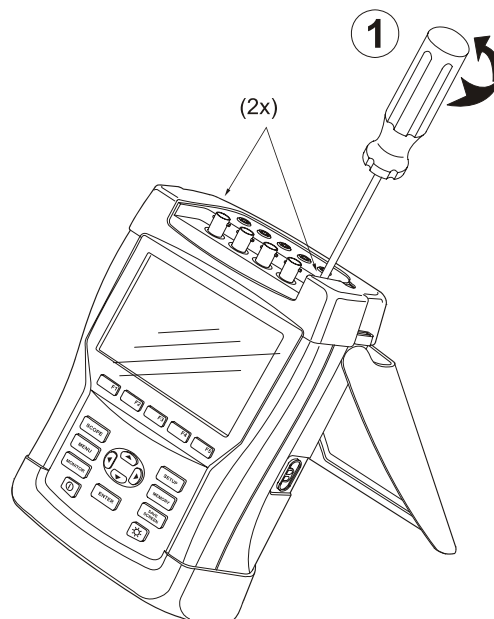

Figure 5-2. Loosen 2 Input Cover Screws
1. Loosen the two M3 Torx screws that secure the input cover (Figure 5-2).